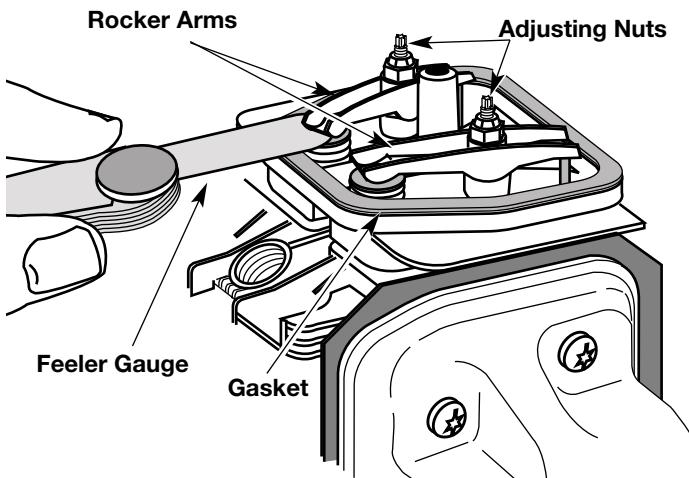

Fig. 42
9. Slide the feeler gauge between the rocker arm and the valve return spring. Measure the clearance between the valve stem and rocker arm (Fig 42). Do both intake and exhaust valves.
- a. Turn the adjusting nut using a 5/16 inch (8 mm) wrench or nut driver (Fig. 42).